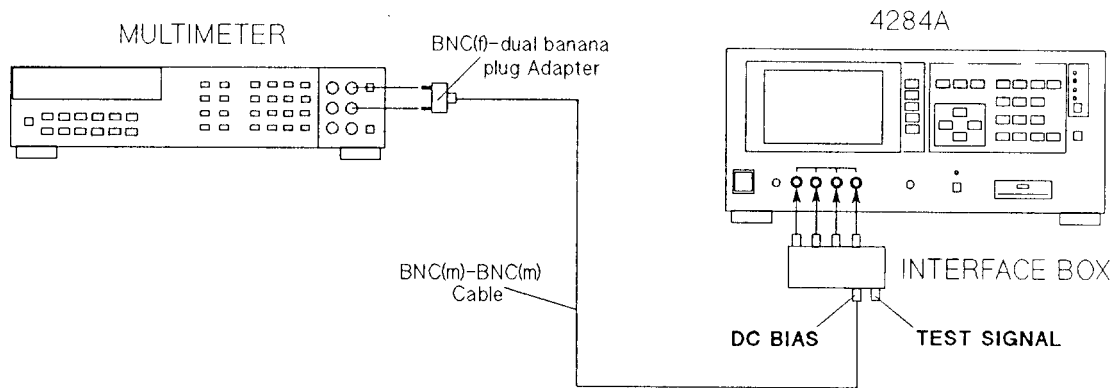

Figure 10-4. DC Bias Level Accuracy Test Setup Using an Interface Box
1. Connect the equipment as shown in Figure 10-4.